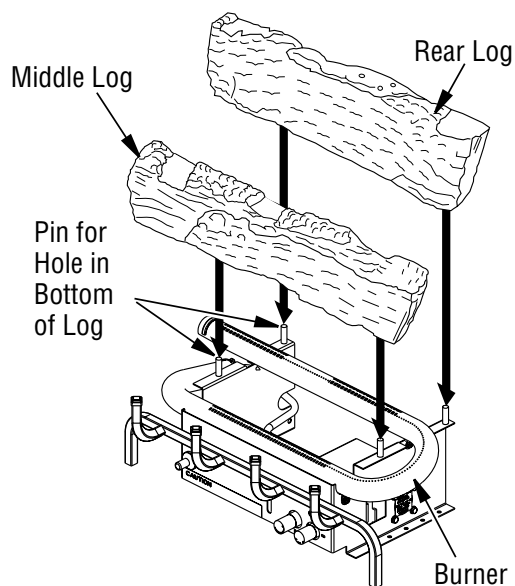

Figure 21 - Installing Rear and Middle Logs
1. Place rear log onto base. Holes in bottom of log must seat over pins on base as shown in **Figure 21**.
2. Place middle log onto base. Holes in bottom of log must seat over pins on base as shown in **Figure 21**.